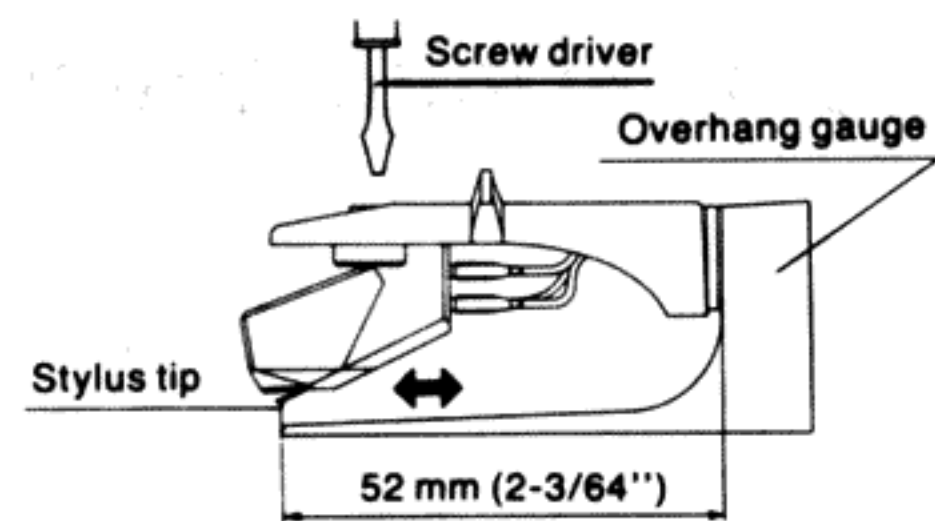

Fig. 15
- **Overhang adjustment** (See Fig. 15)